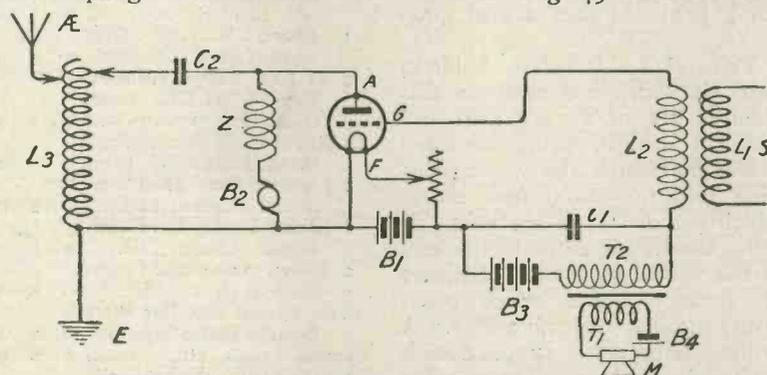

Fig. 48.—The high frequency output of the valve is varied by altering the grid potential by means of the microphone.
**A** NOTHER circuit using a separately excited amplifier valve is shown in Fig. 48. Here we apply the radio-frequency currents to the grid through a transformer  $L_1 L_2$ , the coupling between the coils
In the Fig. 48 arrangement the positive half-cycles which lessen the normal negative potential on the grid are provided by the secondary  $T_2$  of the microphone transformer; the negative half-cycles move the base-line potential further to the left, but since the high-frequency output of the amplifier valve cannot be reduced below zero, these negative half-cycles do not enter into the operation of the circuit.